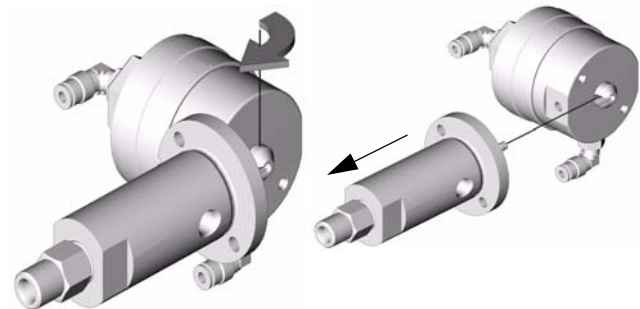

FIG. 3
5. Separate the air and fluid sections. See FIG. 3.
1. Join the air and fluid sections together. See FIG. 3.